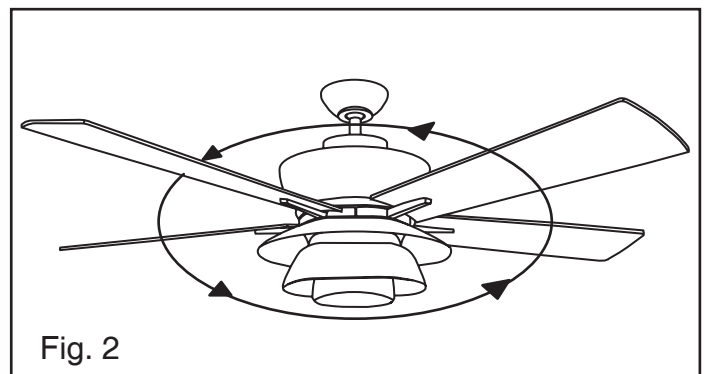

Fig. 2
10. Place the upper glass shade onto the top of the motor housing, and then install 4 x 25W candelabra bulbs into the bulb sockets (included). (Fig. 2)
Step 1. (Fig. 2) Insert the receiver into the mounting bracket with the flat side of the receiver facing the ceiling.
3. Raise the bottom glass shade up against glass holder plate and secure it to fan by twisting glass clockwise until snug. DO NOT OVERTIGHTEN. (Fig. 2)
Warm weather-(Counter-Clockwise direction) A downward air flow creates a cooling effect.(Fig. 2) This allows you to set your air conditioner on a higher setting without affecting your comfort.